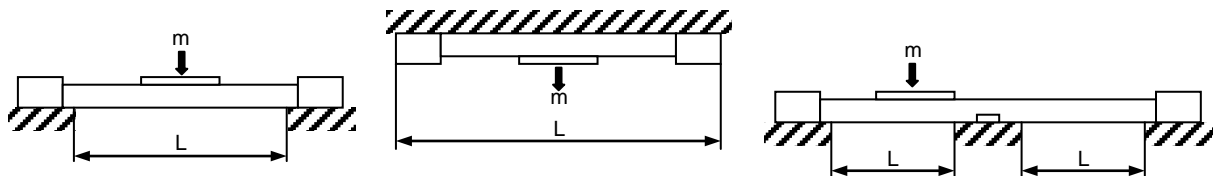
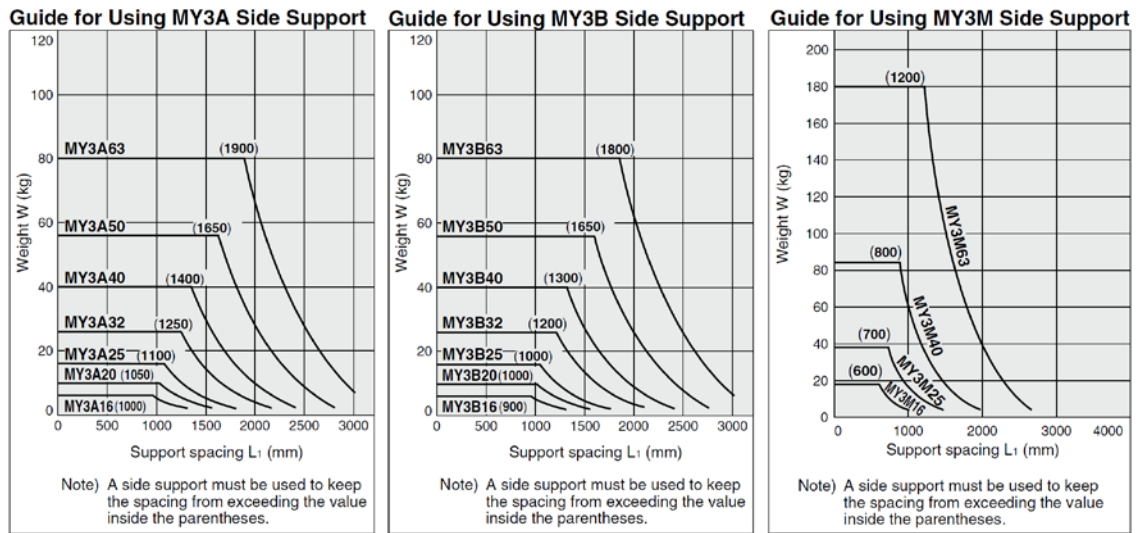

Fig. 6
Fig. 7
- The cylinder tube may deflect due to its own weight, load, or etc. When the cylinder tube is deflected, hold the cylinder at the intermediate position using the side support. Support spacing (L) shown in Fig. 6 must be the values shown in Fig. 7 or less.